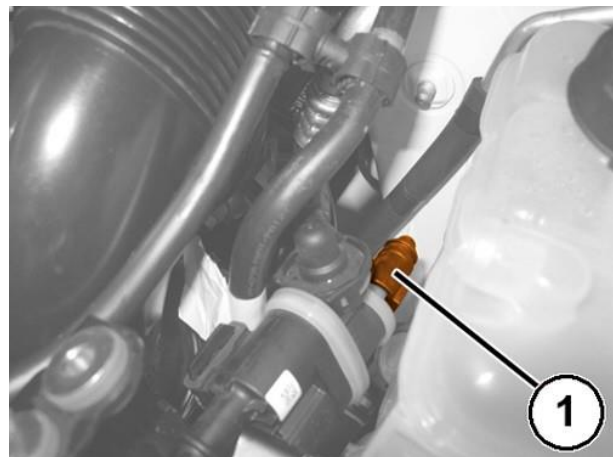

Figure 46 – Fuel Vapor Supply Pipe
31. Disconnect the quick coupling (1) of the fuel vapor supply pipe to the air sleeve between air flow meter and heat exchanger (Figure 46).